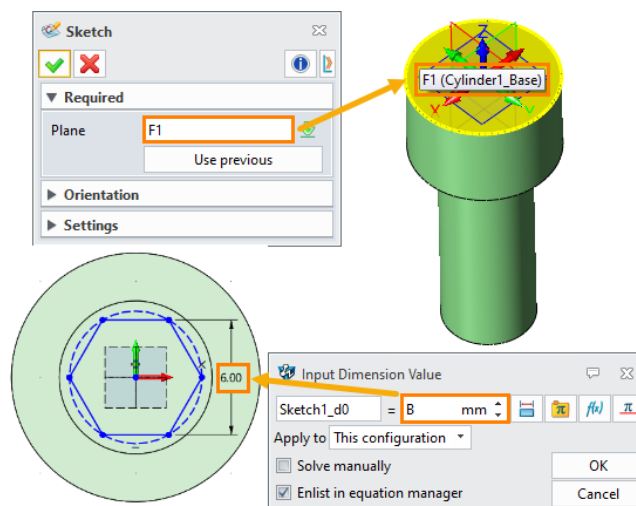

Figure 17 Creating a Hexagon on the Screwhead
**STEP 06** Create the hex socket by creating a hexagon on the screwhead with the **Sketch** command first. Then, set the expression **B** as Sketch1\_d0 in the **Input Dimension Value** dialog and make sure the sketch is well defined, as shown in Figure 17.